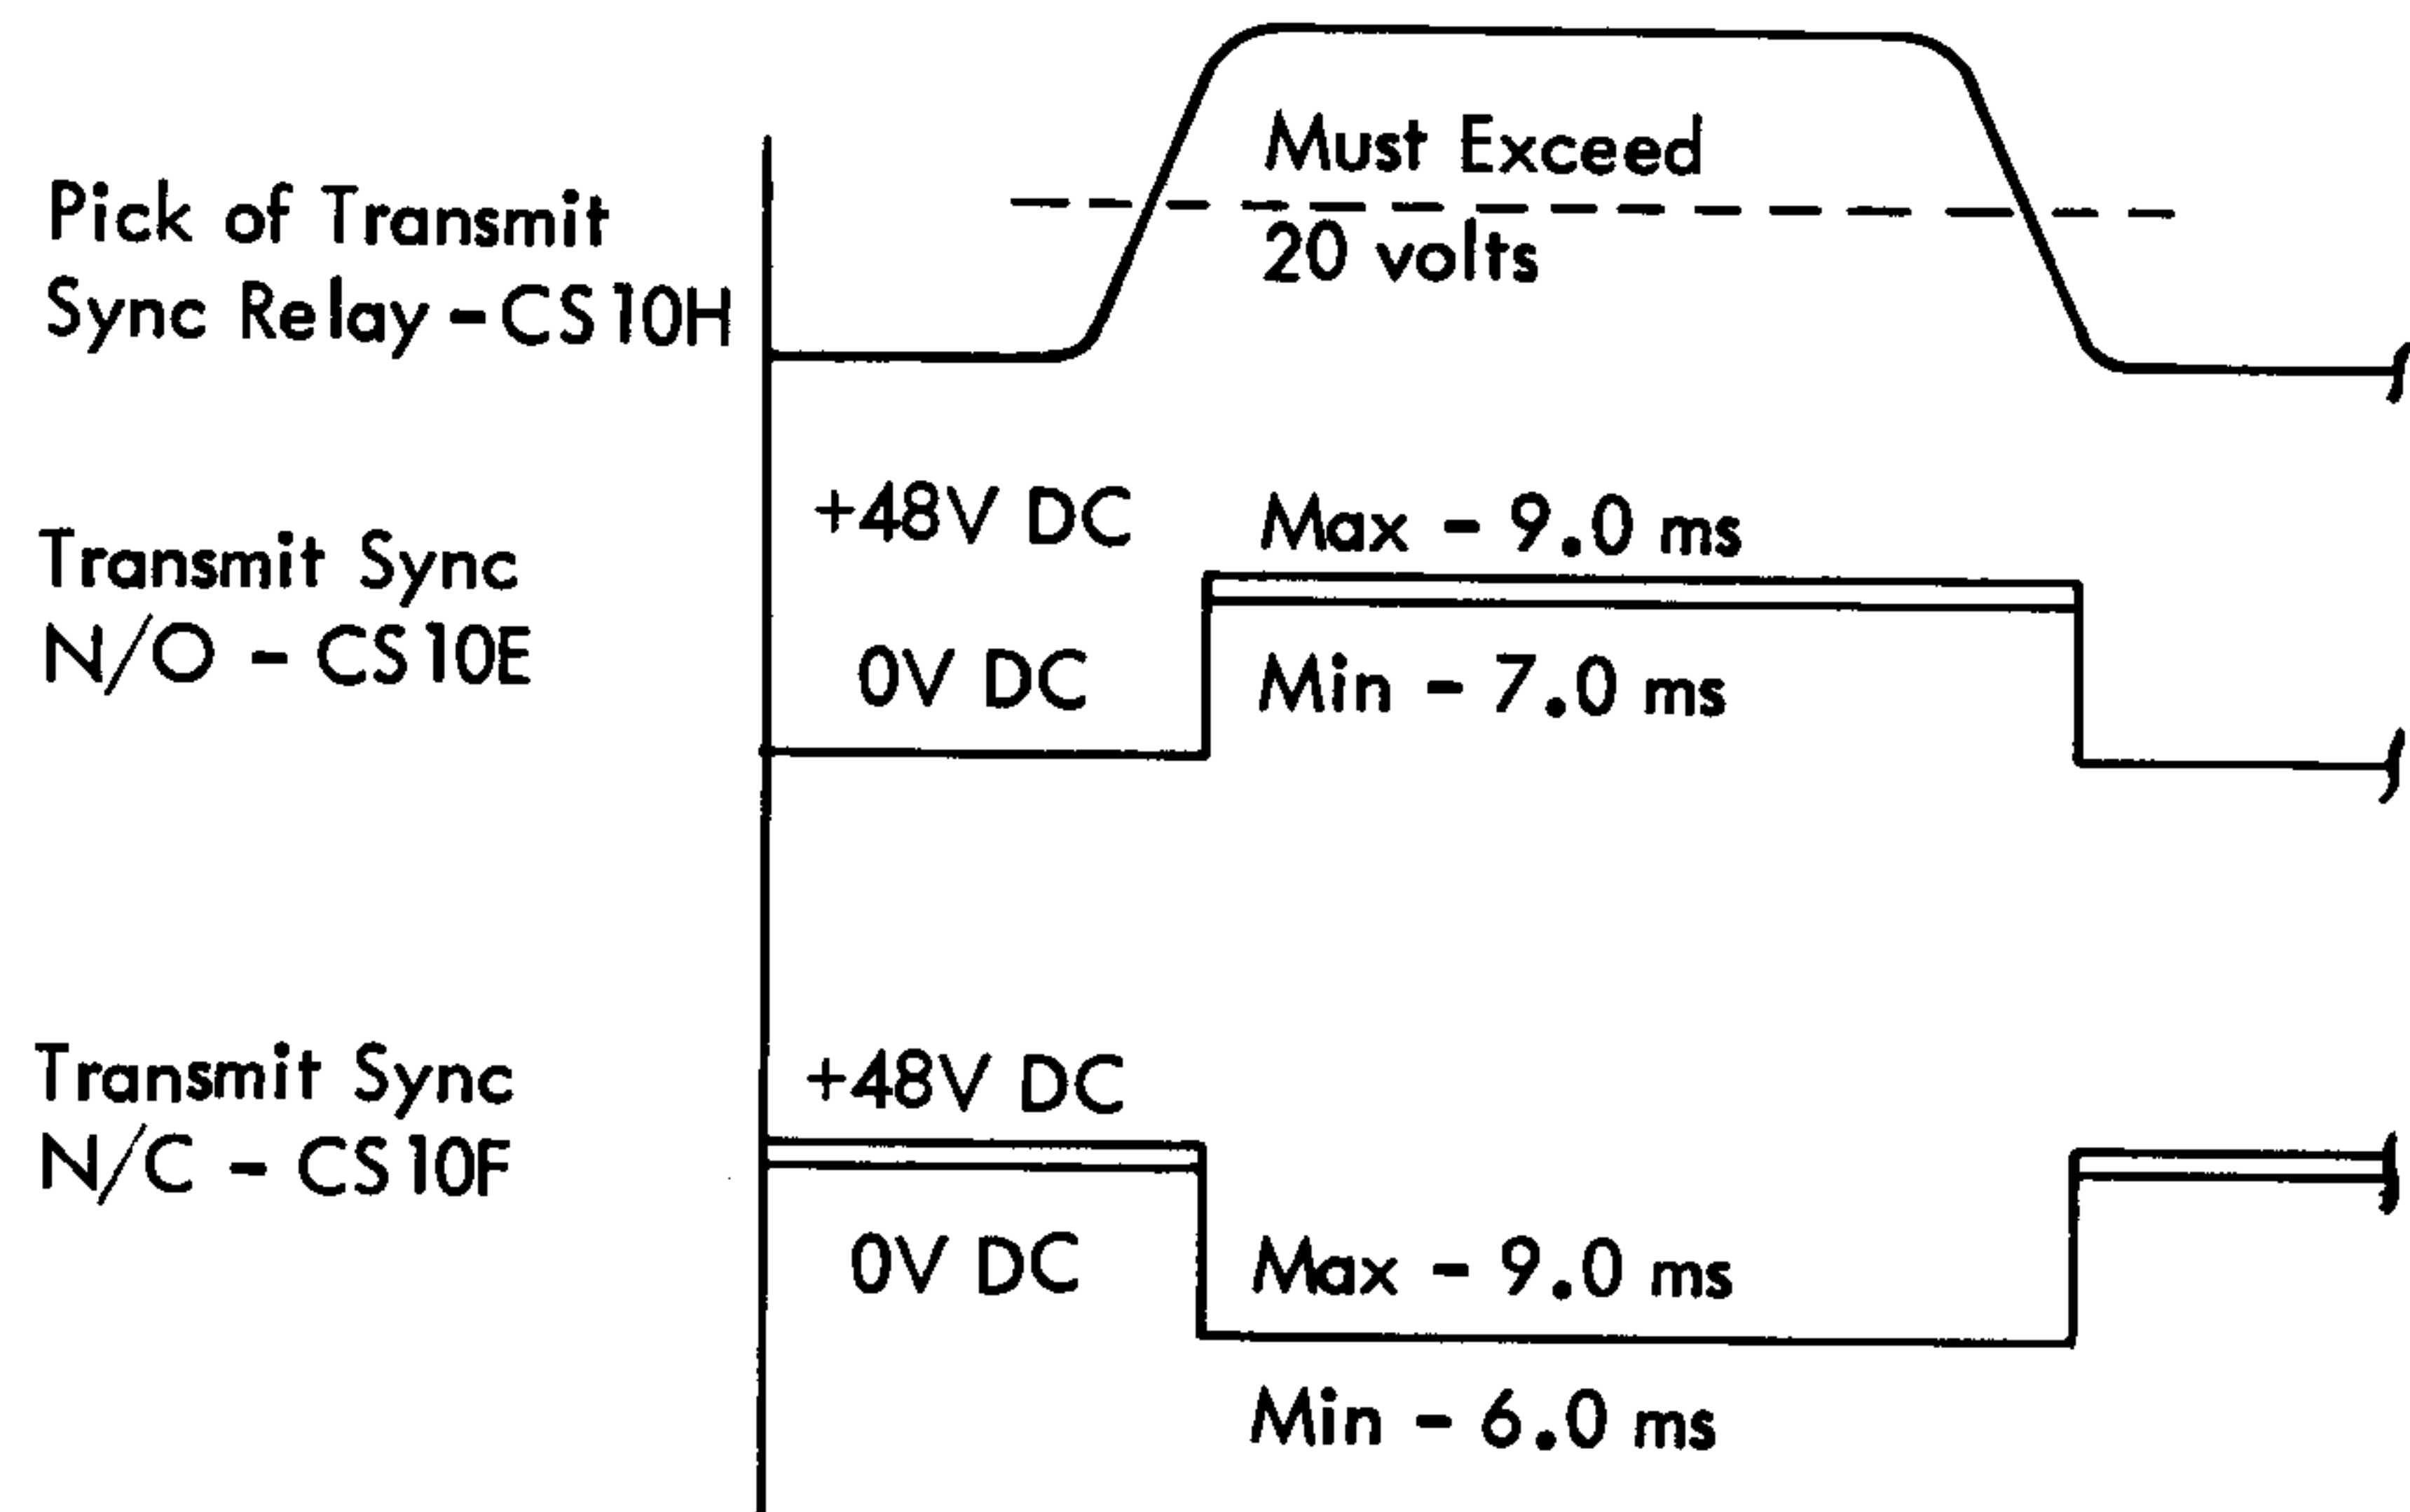

Figure 22. Transmit-Sync Relay Timing
2. Transmit-sync relay timing (Figure 22). The durations of the transmit-sync mercury-wetted relay points are shown with maximum and minimum make and break duration times.